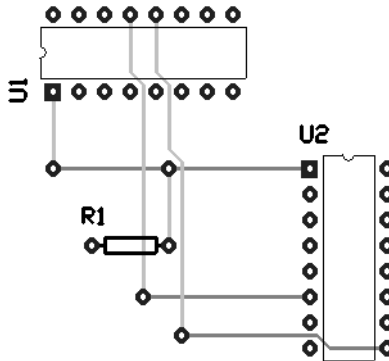

Figure 3.10. The tutorial Board, after using the Route Pad-to-Pad Without Net tool.
- 4 For practice, complete the following connections: U1-12 to U2-9 and U1-13 to U2-6. Your “routed” PCB should now look similar to Figure 3.10.